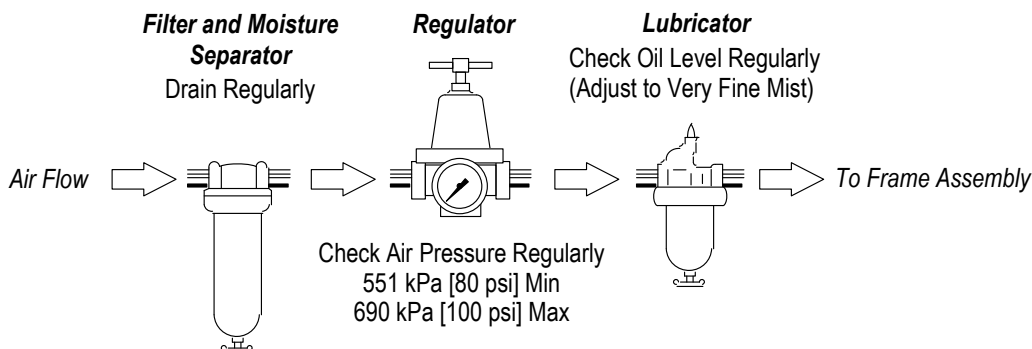

Figure 3
4. Install air line filter, air pressure regulator, and lubricator (supplied by the customer) between the air supply and hose as shown in Figure 3. The assembly must be as close as possible to the frame assembly. Fill the air line lubricator with a good grade line lubricant (as recommended by the filter manufacturer). When the frame assembly is not in use, the air supply should be turned off.